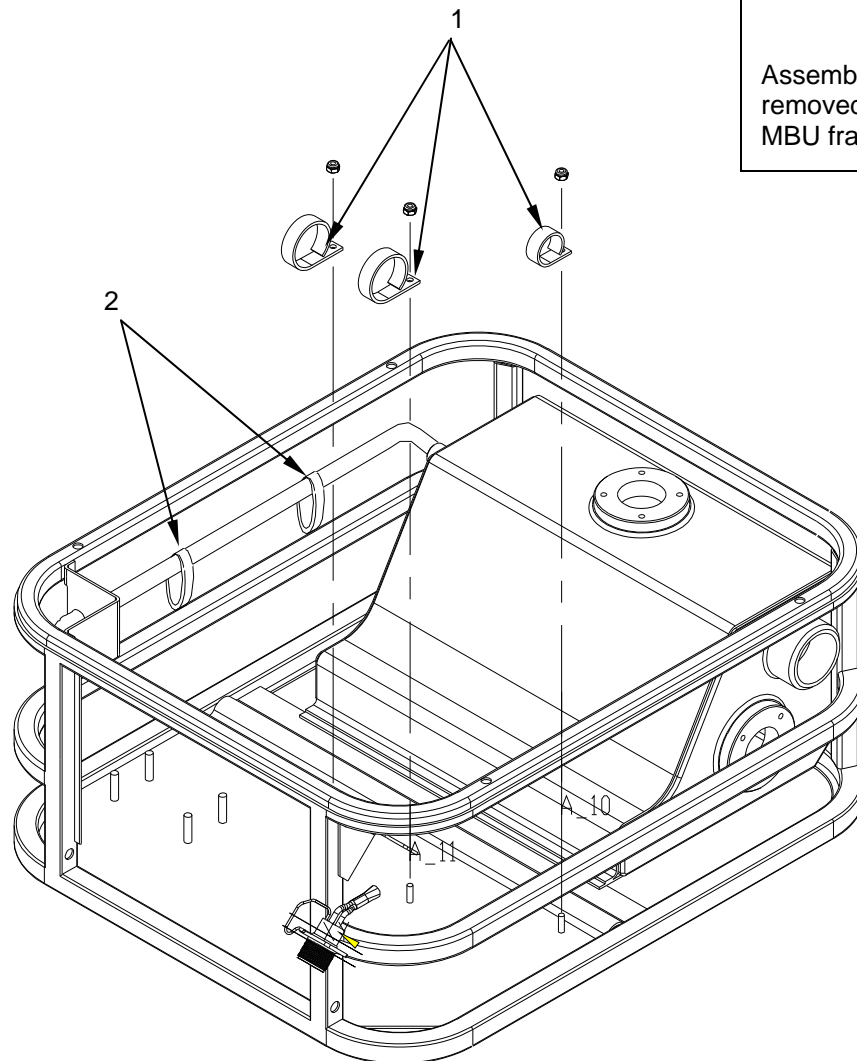

Figure 1. Inspect Chassis Mounted Cable Clips and Hose Clamps.
1. Inspect each chassis cable clip (Figure 1, Item 1) secured to the MBU frame to ensure that they are not cracked, cut, or otherwise damaged. Refer to field maintenance to replace any unserviceable chassis cable clips IAW WP 0037.
2. Inspect each cable clip (Figure 1, Item 2) securing wires to the copper fuel line to ensure that they are not cracked, cut, or otherwise damaged. Replace any unserviceable cable clips IAW this WP.